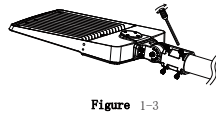

Figure 1-3
Step3: Mount the fixture on the light pole and fix it with screws firmly to ensure that the fixture cannot be rotated or shaken, Figure 1-3;